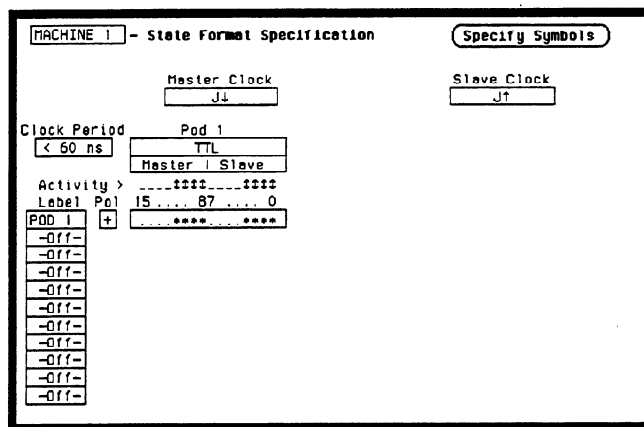

Figure 3-24. Format Specification for Data Test 5
- Set up the **State Format Specification** as in figure 3-24. Assign the falling J clock to the **Master Clock** and the rising J clock to the **Slave Clock**. Refer to steps a through d after figure 3-24 if you are unfamiliar with menus.